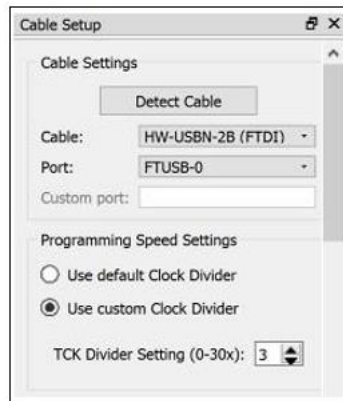

Figure 12 TCK Frequency Setting
- If the device is not detected on port FTUSB-0, click on **Detect Cable** and select the port FTUSB-1 (Figure 12).